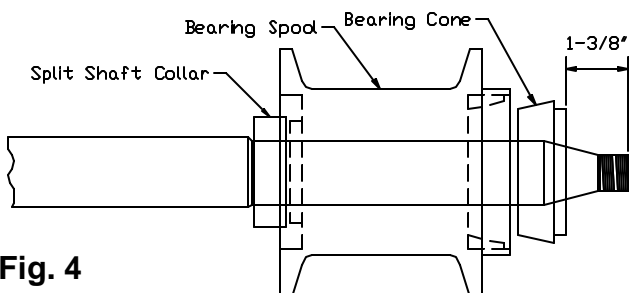

Fig. 4
6) Loosen the set screw in the split shaft collar and slide the collar onto the drive shaft as far as it will go. Leave it loose at this time. See Fig. 4
7) Slide the spool onto the shaft such that the brass bushing end goes toward the front of the drive shaft (front of car when finally installed). See Fig. 4
it on only to a distance of approximately 1-3/8" as necessary to be able to install the modified key. See Fig. 4. It is normal for the roller bearing cone end to be tighter on the shaft than the brass sleeve end. The pinion gear **MUST pull** the cone bearing into final position for proper fit.